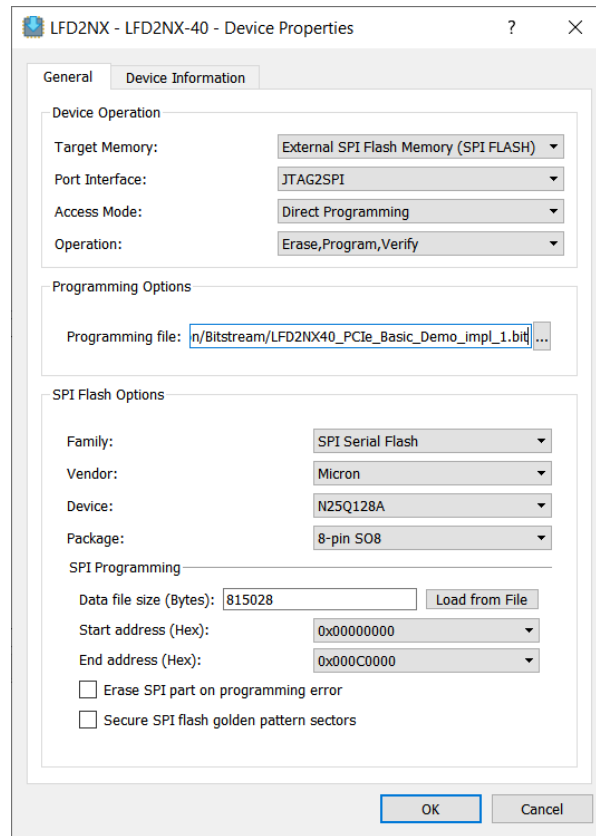

Figure 3.11. Device Properties
- Enter the settings as shown in Figure 3.11.